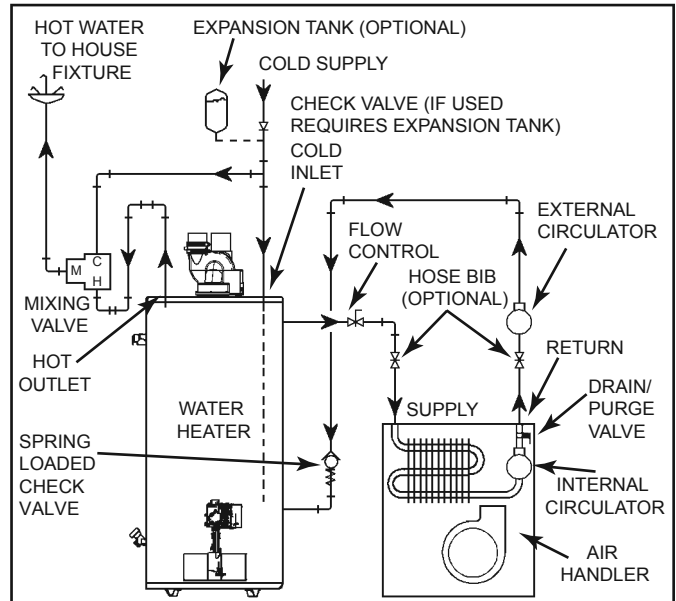
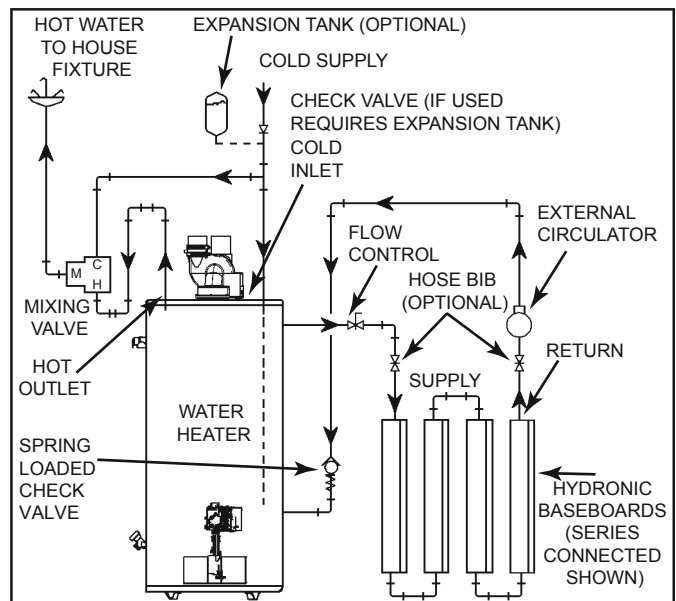

Figure 22.
Figure 23.
8. “Combo” Heating Systems require higher water temperatures than other applications. When the system is used to supply water for Combo Heating applications, a means, such as Thermostatic Mixing Valves (see Figure 8) at each point-of-use, must be installed to temper the water in order to reduce scald hazard potential (see Figure 22 and Figure 23).
- A. A fan coil/air handler (Figure 22).
- B. A hydronic baseboard (finned tube) loop/In floor heating (Figure 23).